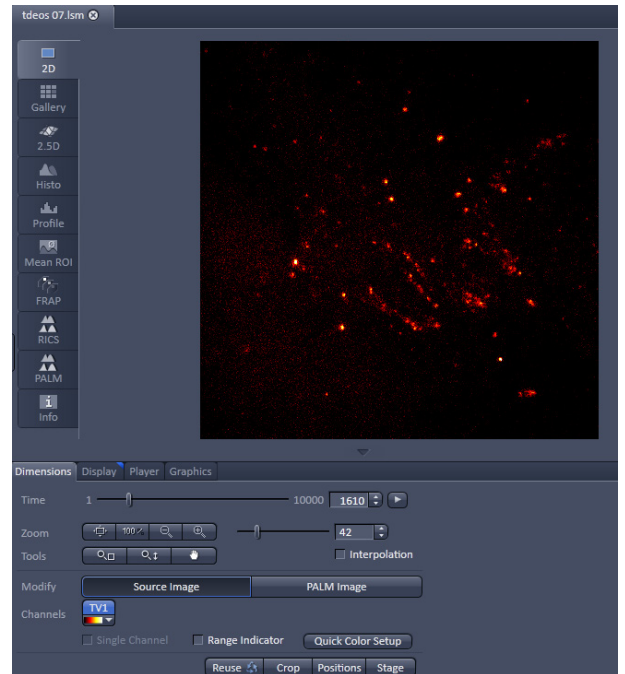

Fig. 48 Image Display
- Use one of the **AF Find Focus**, **Set Exposure**, **Live**, **Continuous** or **Snap** buttons to start the procedure to acquire an image (Fig. 48).